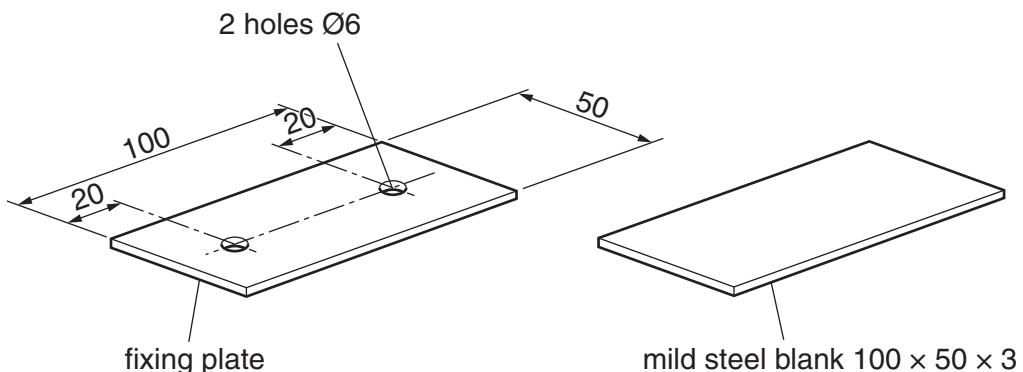

Fig. 2
- 2 Fig. 2 shows a fixing plate and the mild steel blank from which it is made.
- (a) Complete the table below by giving the stages needed to mark out the fixing plate shown in Fig. 2 ready for drilling. Give the names of tools or equipment needed at each stage.